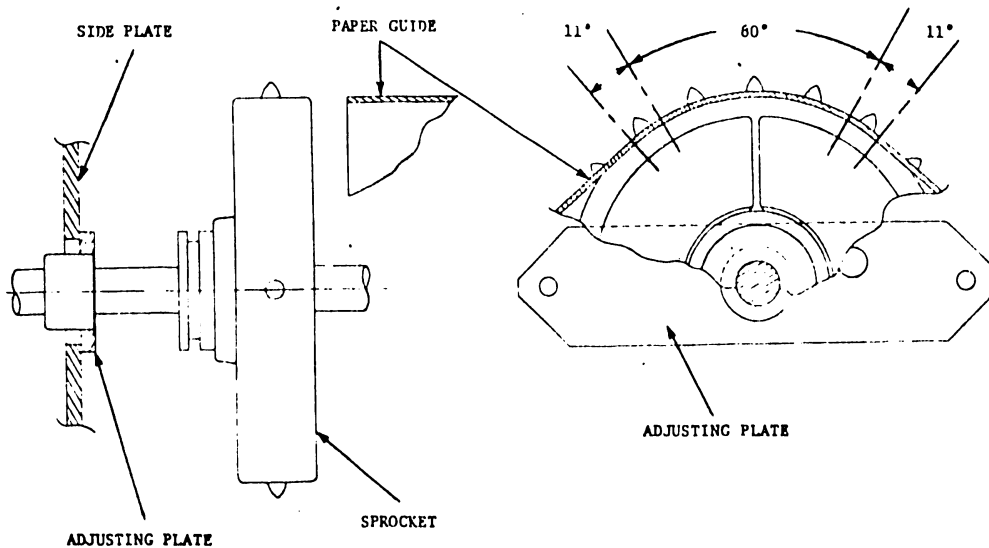

FIGURE 5-2 PAPER GUIDE ADJUSTMENTS
5.3.2 PAPER GUIDE (FIGURE 5-2)